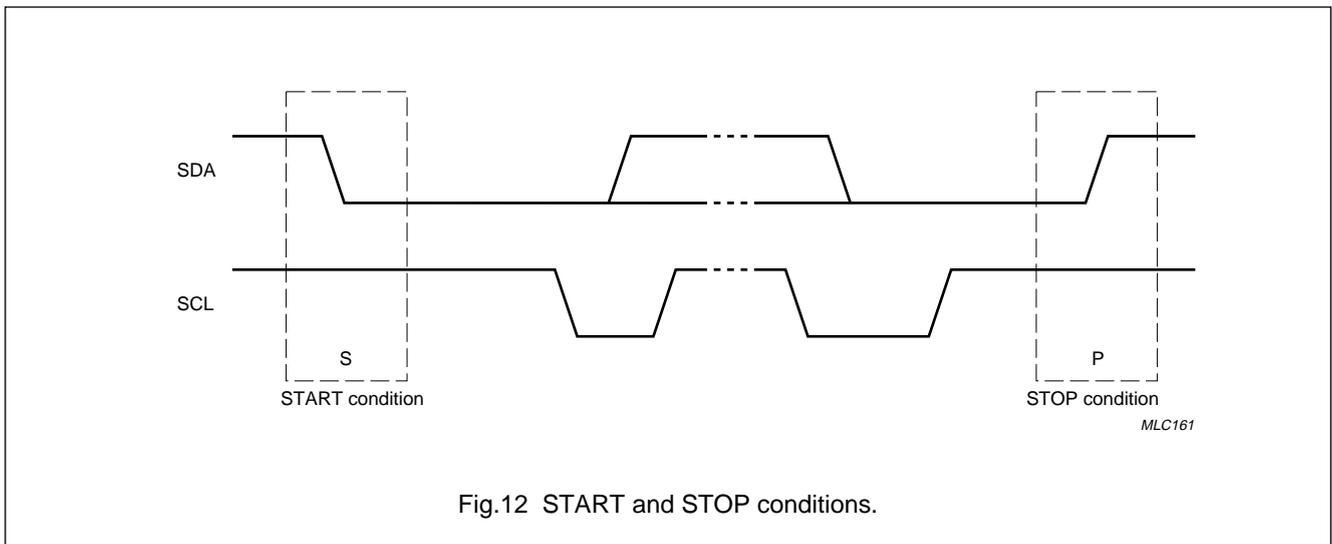

Fig.12 START and STOP conditions.
In the START and STOP condition the data and clock lines remain HIGH when the bus is not busy. A HIGH-to-LOW transition on the data line, while the clock is HIGH, is defined as the START condition (S). A LOW-to-HIGH transition on the data line, while the clock is HIGH, is defined as the STOP condition (P); (see Fig.12).